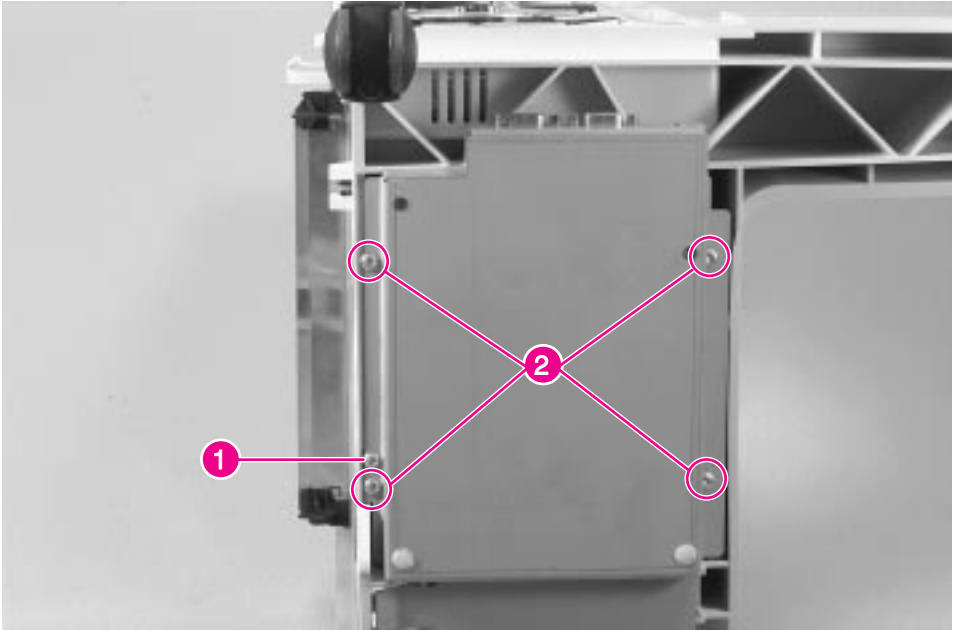

Figure 6-76 Mailbox with Stapler, PCA Removal
- 3 Remove the Controller PCA (see figure 6-76 on page 245).
- 3 Remove 1 grounding screw (figure 6-76, callout 1) and 4 self-tapping screws (figure 6-76, callout 2).